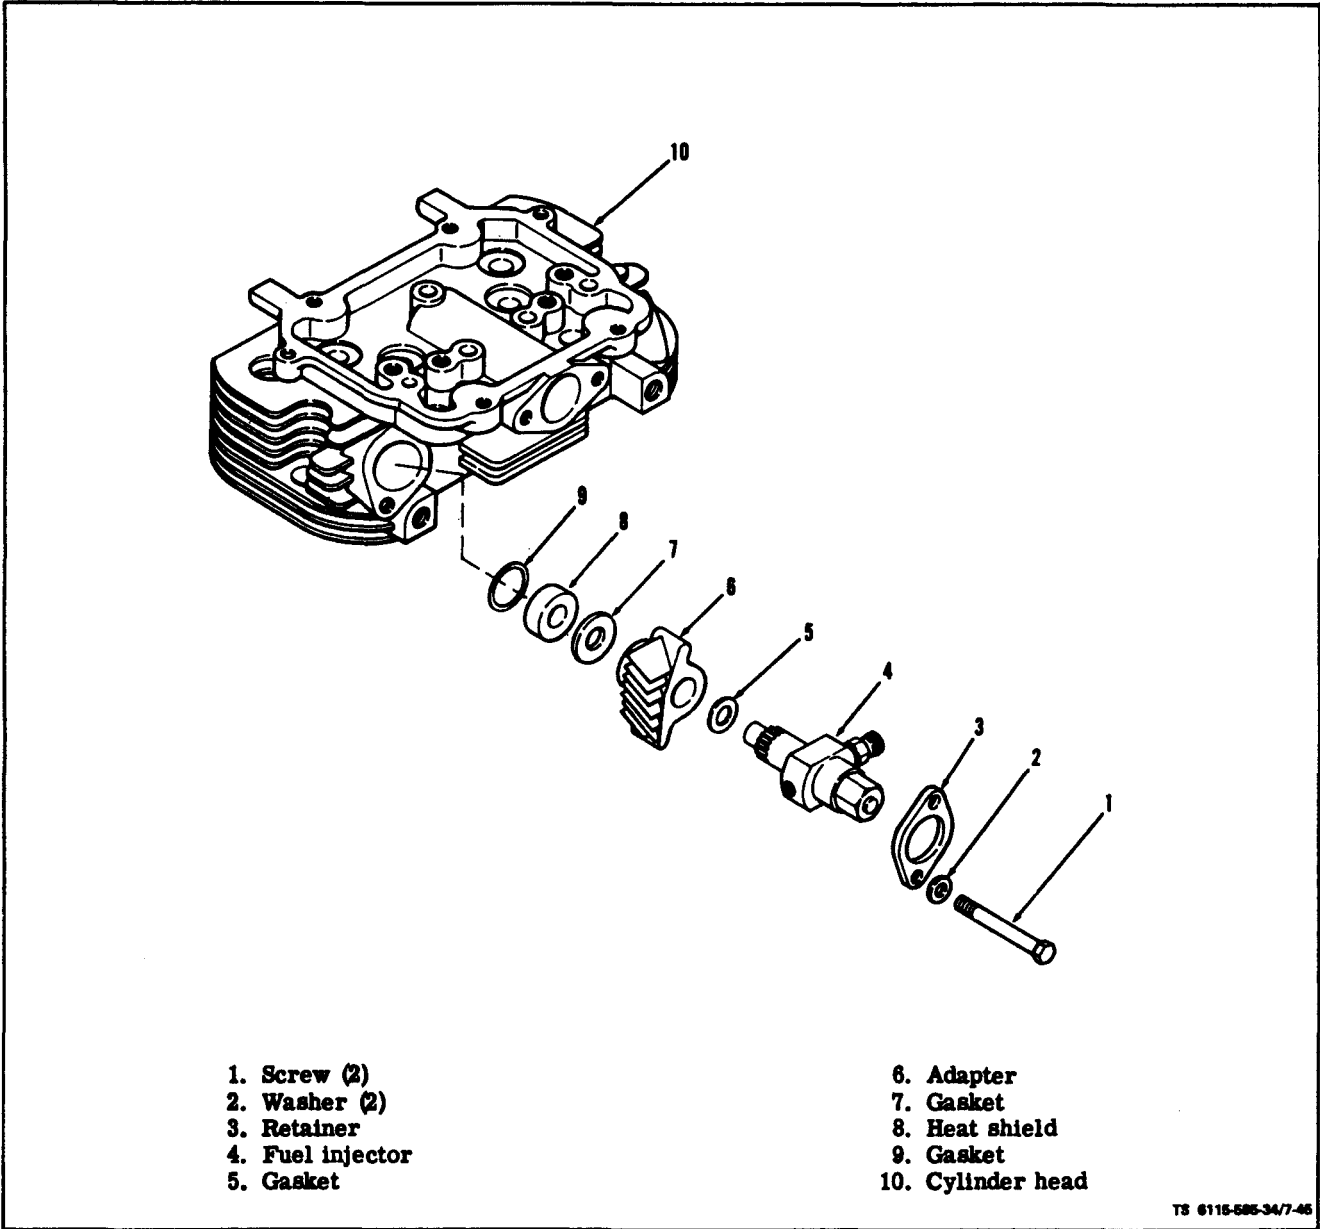

Figure 7-45. Injector Nozzle Removal
(2) Remove screws (1, figure 7-45), washers (2) and retaining flanges (3).
(3) Remove fuel injector (4), gasket (5), adapter (6), gasket (7), heat shield (8) and gasket (9). Separate injector from other components.
(1) Make sure old gasket material has been removed from injector.
(2) Assemble new nozzle gasket (5, figure 7-45), adapter (6), gasket (7), heat shield (8) and gasket (9) on injector (4).
(3) Install injector and assembled parts into cylinder head (10).
(4) Install retaining flange (3) and tighten down with screws (1) and washers (2)."
(5) Reconnect fuel lines as described in paragraph 7-2.
(6) On ASK equipped generators, refer to Operator and Organizational Maintenance Manual and replace top panel assembly.